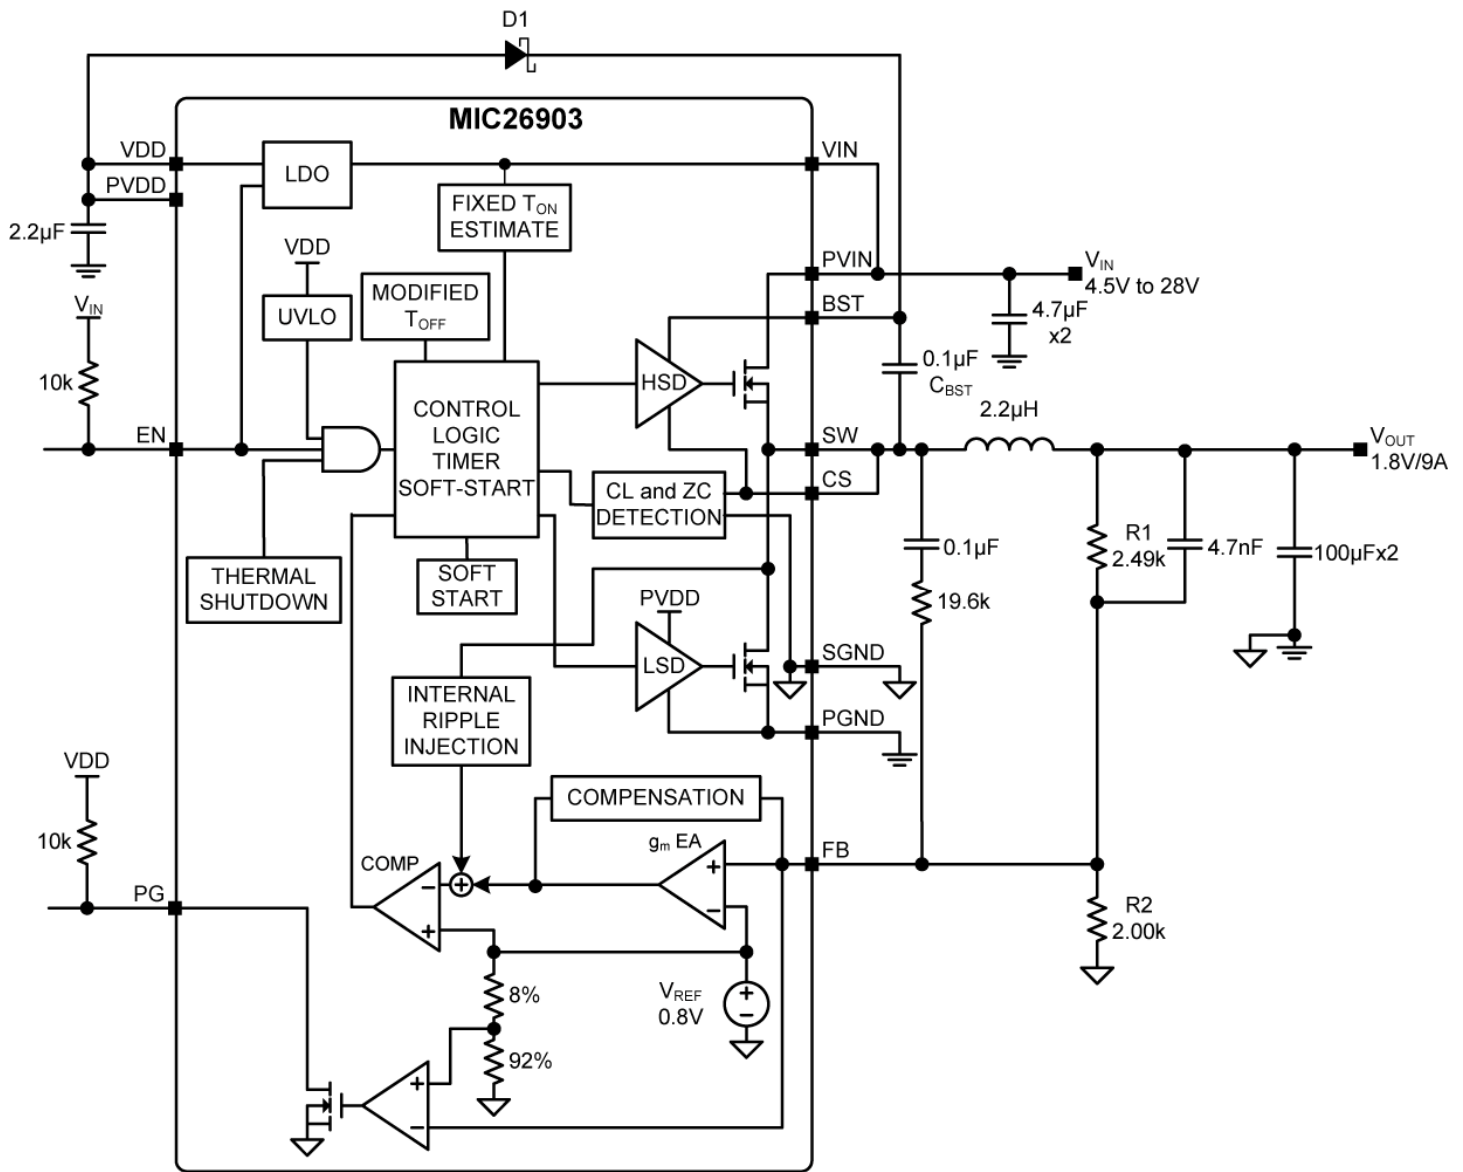

Figure 1. MIC26903 Block Diagram
The MIC26903 is able to operate in either continuous mode or discontinuous mode. The operating mode is determined by the output of the Zero Cross comparator (ZC) as shown in Figure 1.
The Block Diagram (Figure 1) shows a bootstrap circuit, consisting of D1 (a Schottky diode is recommended) and C_{BST} . This circuit supplies energy to the high-side drive circuit. Capacitor C_{BST} is charged, while the low-side MOSFET is on, and the voltage on the SW pin is approximately 0V. When the high-side MOSFET driver is turned on, energy from C_{BST} is used to turn the MOSFET on. As the high-side MOSFET turns on, the voltage on the SW pin increases to approximately V_{IN} . Diode D1 is reverse biased and C_{BST} floats high while continuing to keep the high-side MOSFET on. The bias current of the high-side driver is less than 10mA so a 0.1 μ F to 1 μ F is sufficient to hold the gate voltage with minimal droop for the power stroke (high-side switching) cycle, i.e. $\Delta BST = 10\text{mA} \times 1.67\mu\text{s}/0.1\mu\text{F} = 167\text{mV}$. When the low-side MOSFET is turned back on, C_{BST} is recharged through D1. A small resistor R_G , which is in series with C_{BST} , can be used to slow down the turn-on time of the high-side N-channel MOSFET.